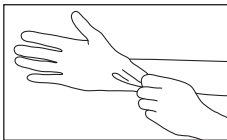

Fig. 6
- 1) Always wear protective gloves, a mask, and protective goggles for safety purposes and to minimize the risk of infection. (Fig. 6)